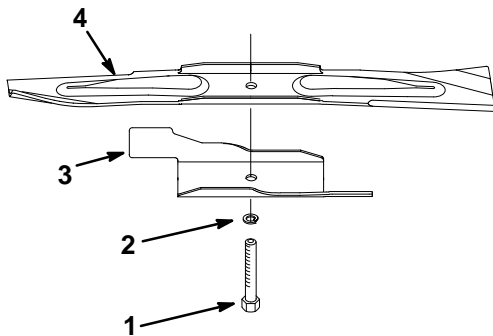

Figure 28
1. Install the blade, blade accelerator, lockwasher, and blade bolt (Fig. 28).
2. Remove the blade bolt, lockwasher, blade accelerator and blade (Fig. 28).